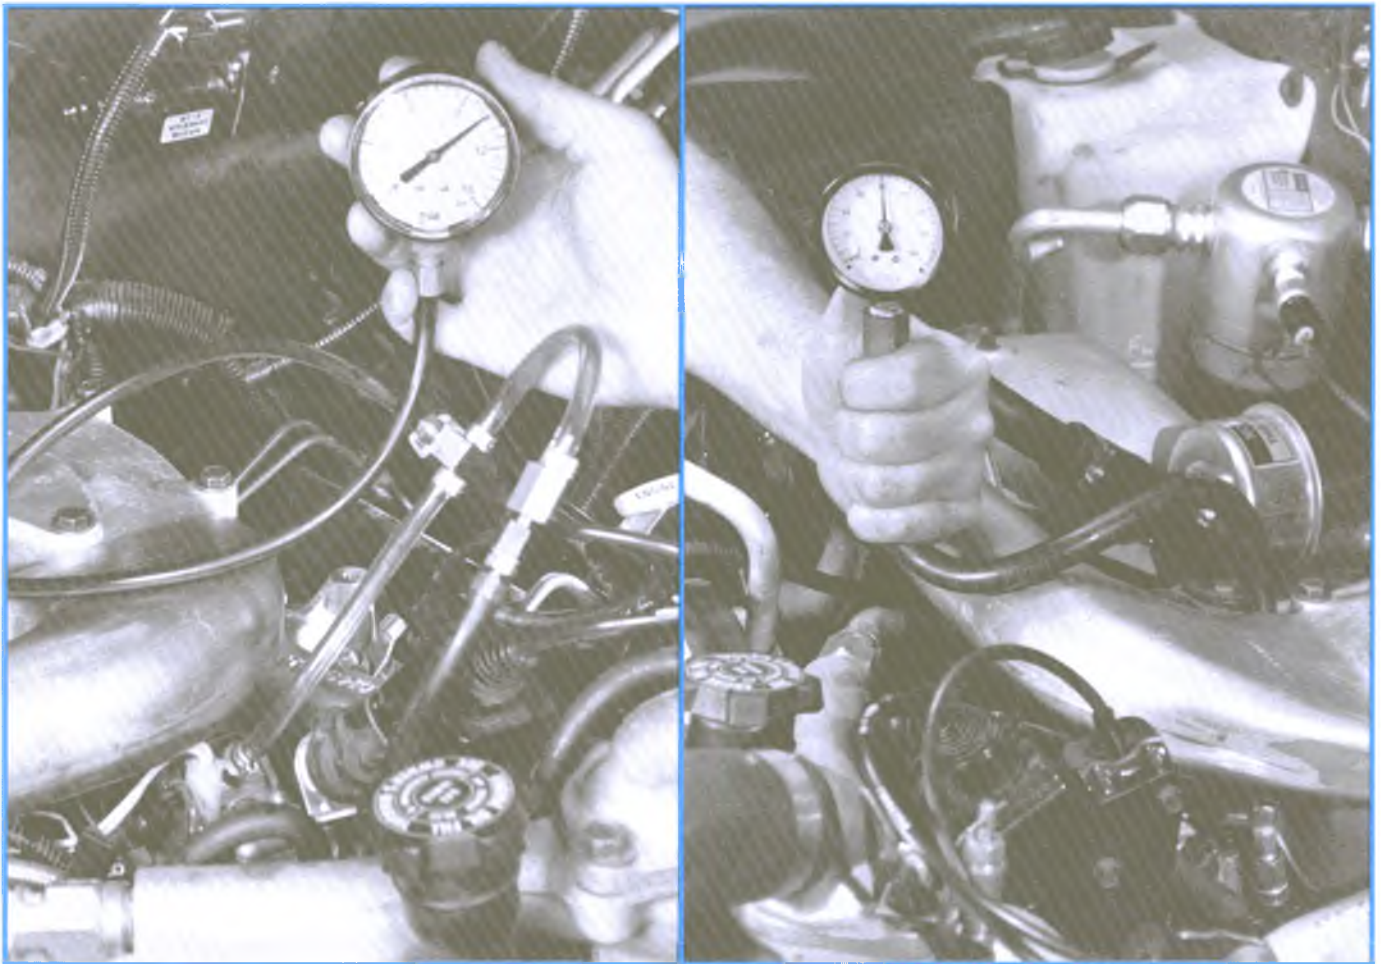

Figure 7-48, Injection System Fuel Return and Transfer Pump Checks
2. Check the fuel return from the injection pump (refer to Figure 7-48):
3. Check the injection pump transfer pump pressure (refer to Figure 7-48):